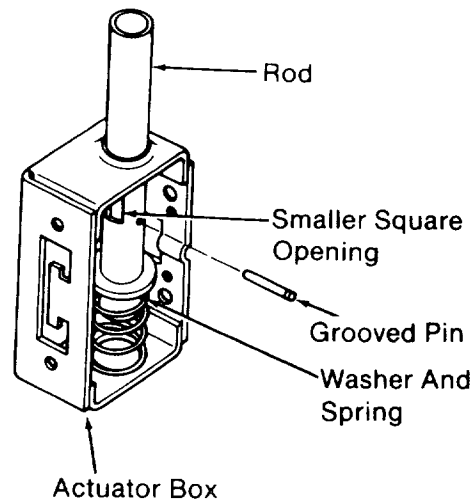

Fig. 22 - Building Left Foot Assembly
7. Put a *washer* and *spring* in place on the bottom of the *rod*, and then slide the *rod* all the way down. (Figure 22)